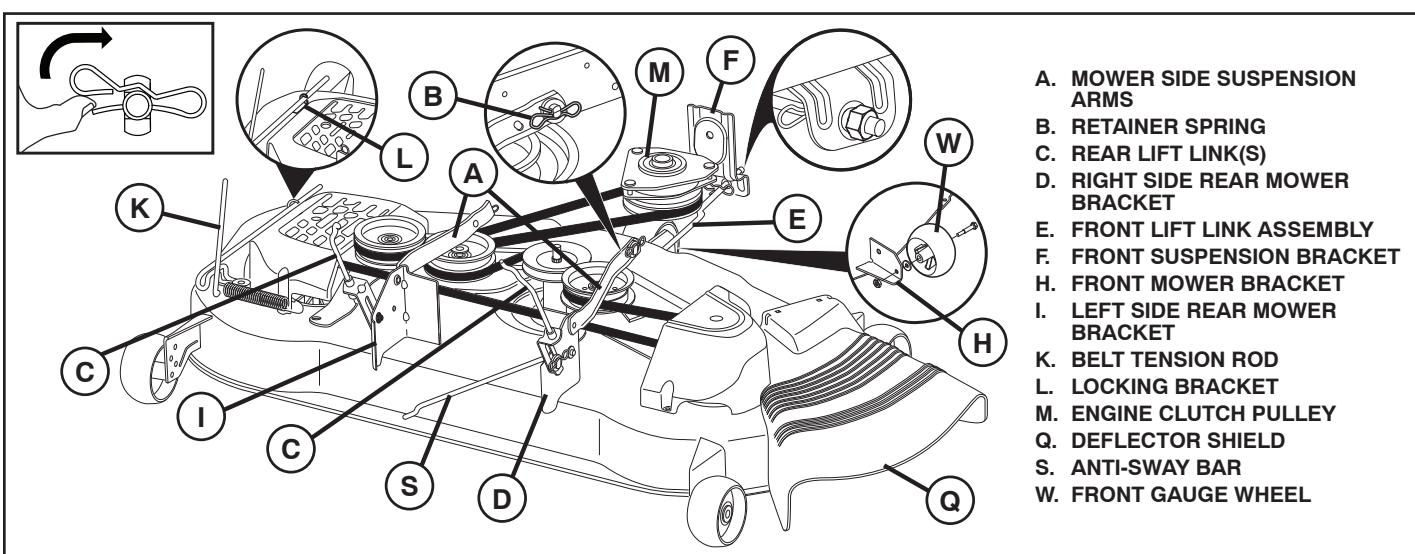

Fig. 7
9 INSTALL BELT ON ENGINE CLUTCH PULLEY (M) (See Fig. 7 and 15)
- Disengage belt tension rod (K) from locking bracket (L).
- Install belt onto engine clutch pulley (M).